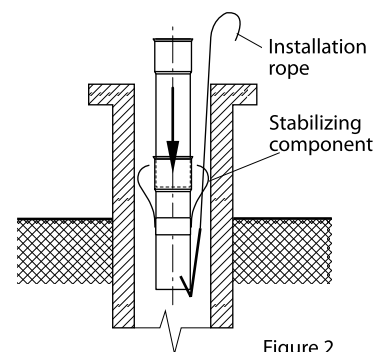

Figure 2
6. Transport the pipe elements, the roof passage and the chimney termination to the installation site (the installation is usually conducted from the roof level). Preassemble sections containing several pipes (according to the comments in items 4 and 5) and lower them down with the help of a rope (figure 2). Continue until the entire chimney is assembled and the first pipe is connected to the tee. To keep the entire structure tight, draw all connections (except for the last one) over the entire muff length. Insert the last element 85 mm deep into the muff.